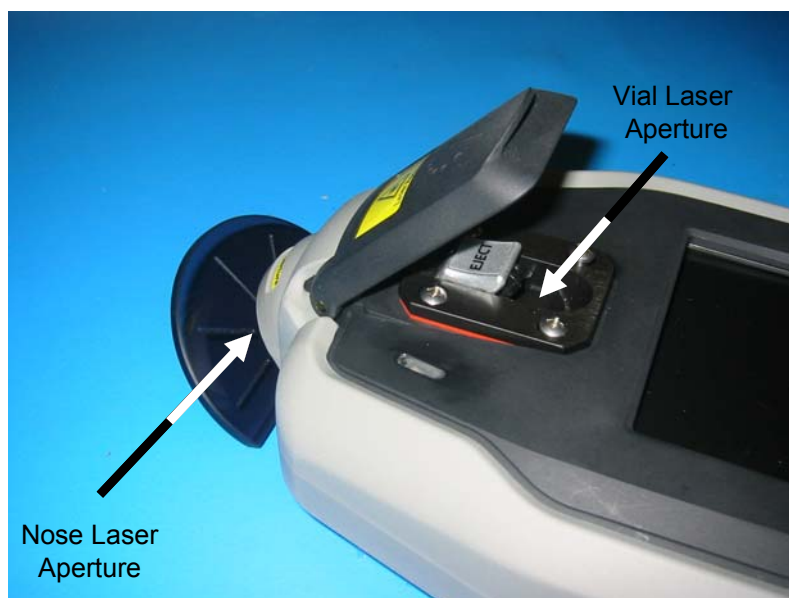

Figure 4-2: The Sample Vial Cover
The First Defender system provides two methods for scanning using the two laser apertures shown in Figure 4-2:
- The sample can be placed in a 4 mL borosilicate vial and placed in the vial holder which can be accessed by opening the cover on the top face of the unit as shown in Figure 4-2.